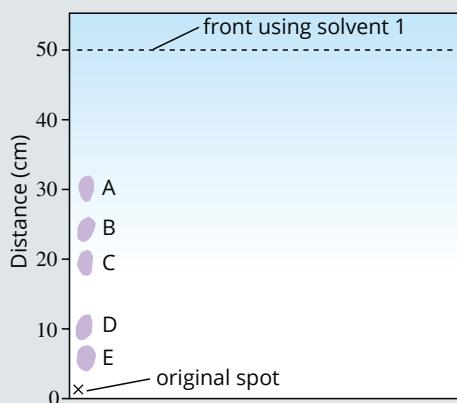

FIGURE 13.3.2 Chromatogram using solvent 1.
- To achieve better separation of the complex mixture of substances present in the juice, a ‘two-way’ chromatogram was prepared. The first step in this procedure was to run a chromatogram using solvent 1. The results of this chromatogram are shown in Figure 13.3.2